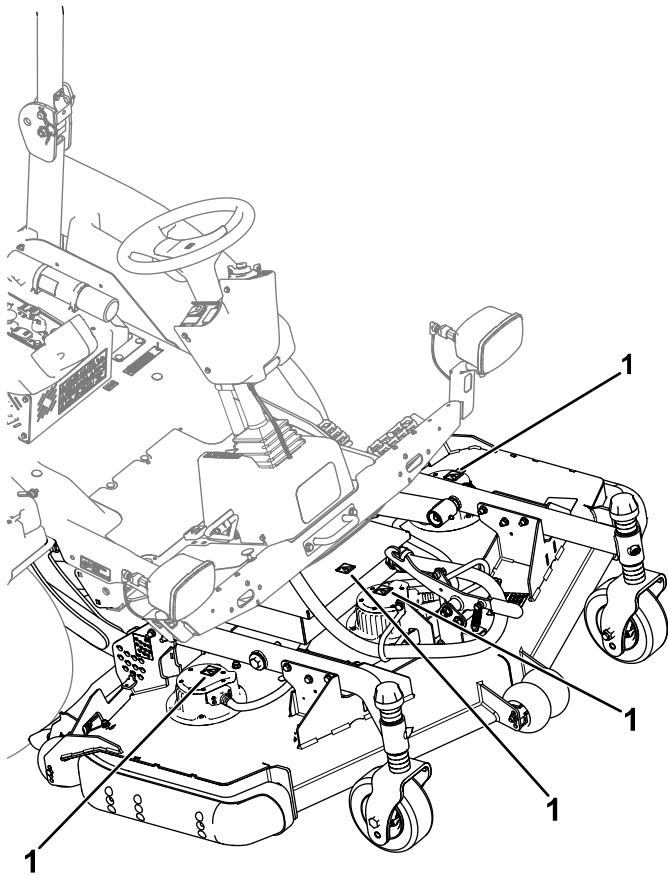

Figure 39
- Cutting-unit motors (Figure 39)
- Cutting-unit controller cover (Figure 39)